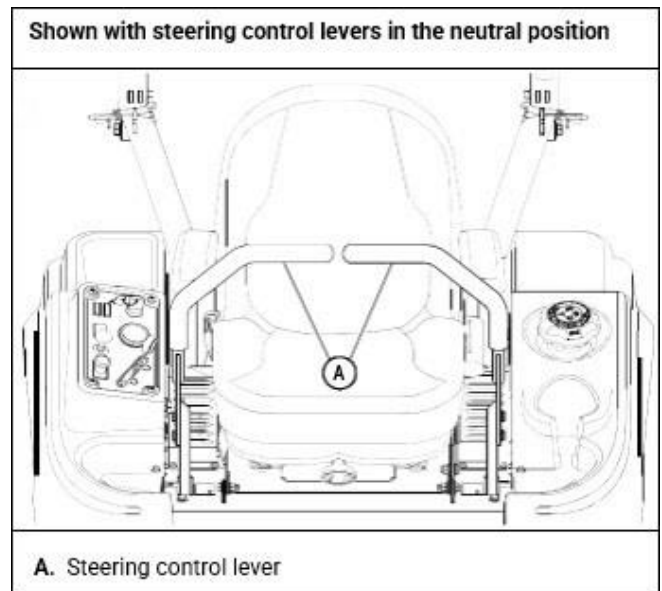

Figure 15
5. Position the steering control lever in the neutral position. [Figure 15]